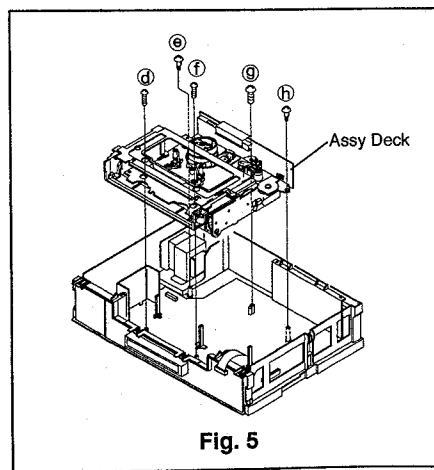

Fig. 5
- ④ Remove the five screws (d~h) holding the Assy Deck, shown in Fig. 5, and disconnect the connectors ML, MM and ME.
- ⑤ Slowly raise slowly the Assy Deck upward to remove it.